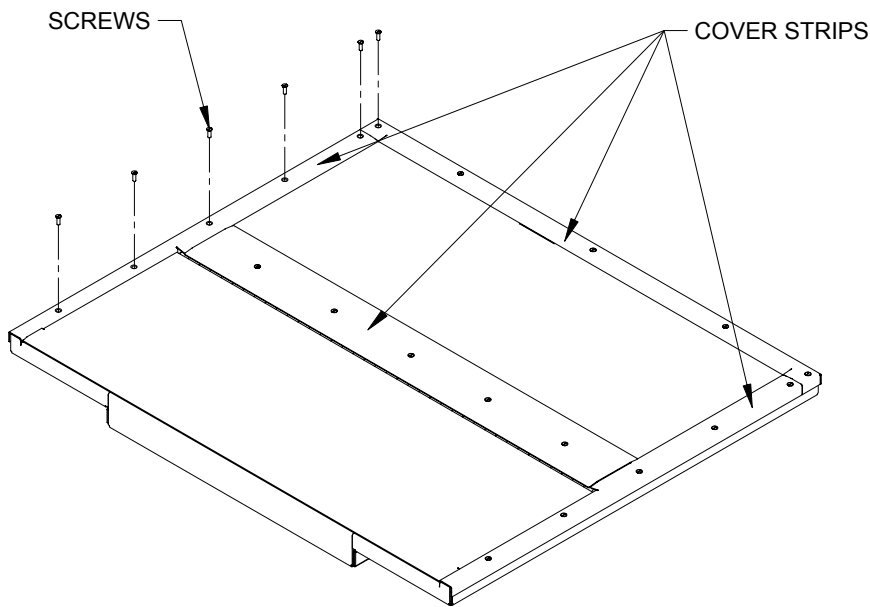

FIGURE 2-1: REMOVAL OF COVER STRIPS
- a. Refer to **Figure 2-1**. Remove cover strip screws.
- b. Refer to **Figure 2-1**. Remove cover strips.